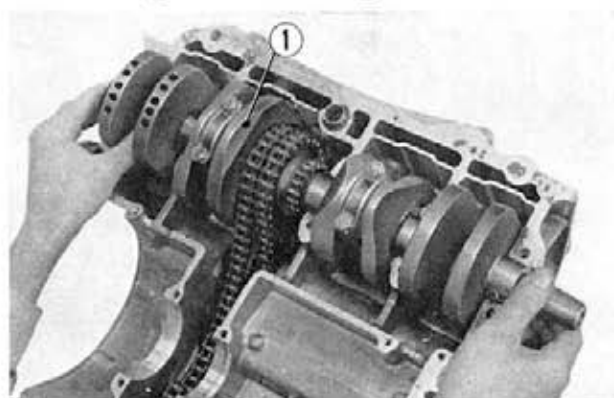

Fig. 3-76 ① Crankshaft
15. Remove the crankshaft from the upper crankcase. (Fig. 3-76)